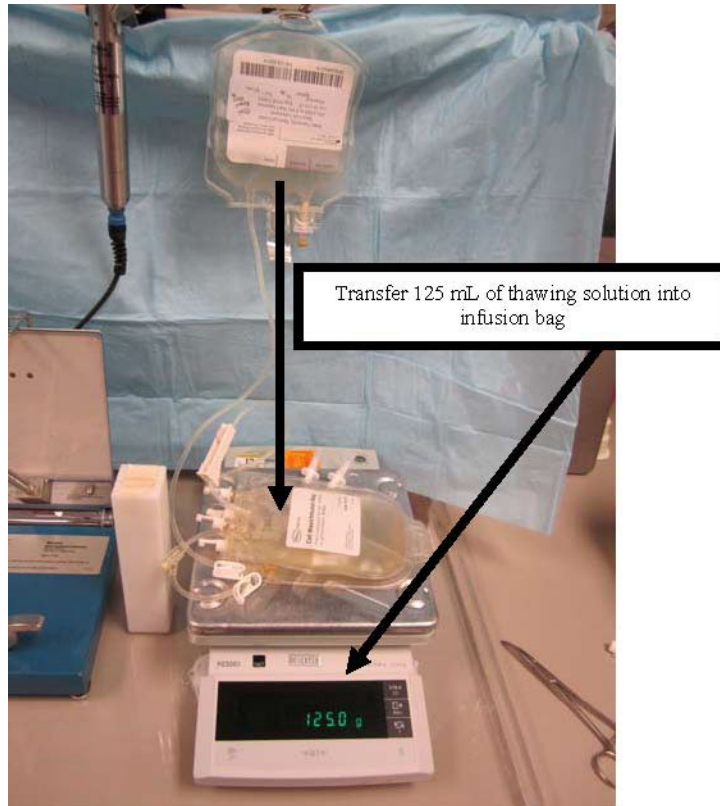

Figure 3
- d. Tare scale and transfer 125 grams (125 mL) of thawing solution from the Dextran 40/Albumin bag into the infusion bag (see Figure 3).